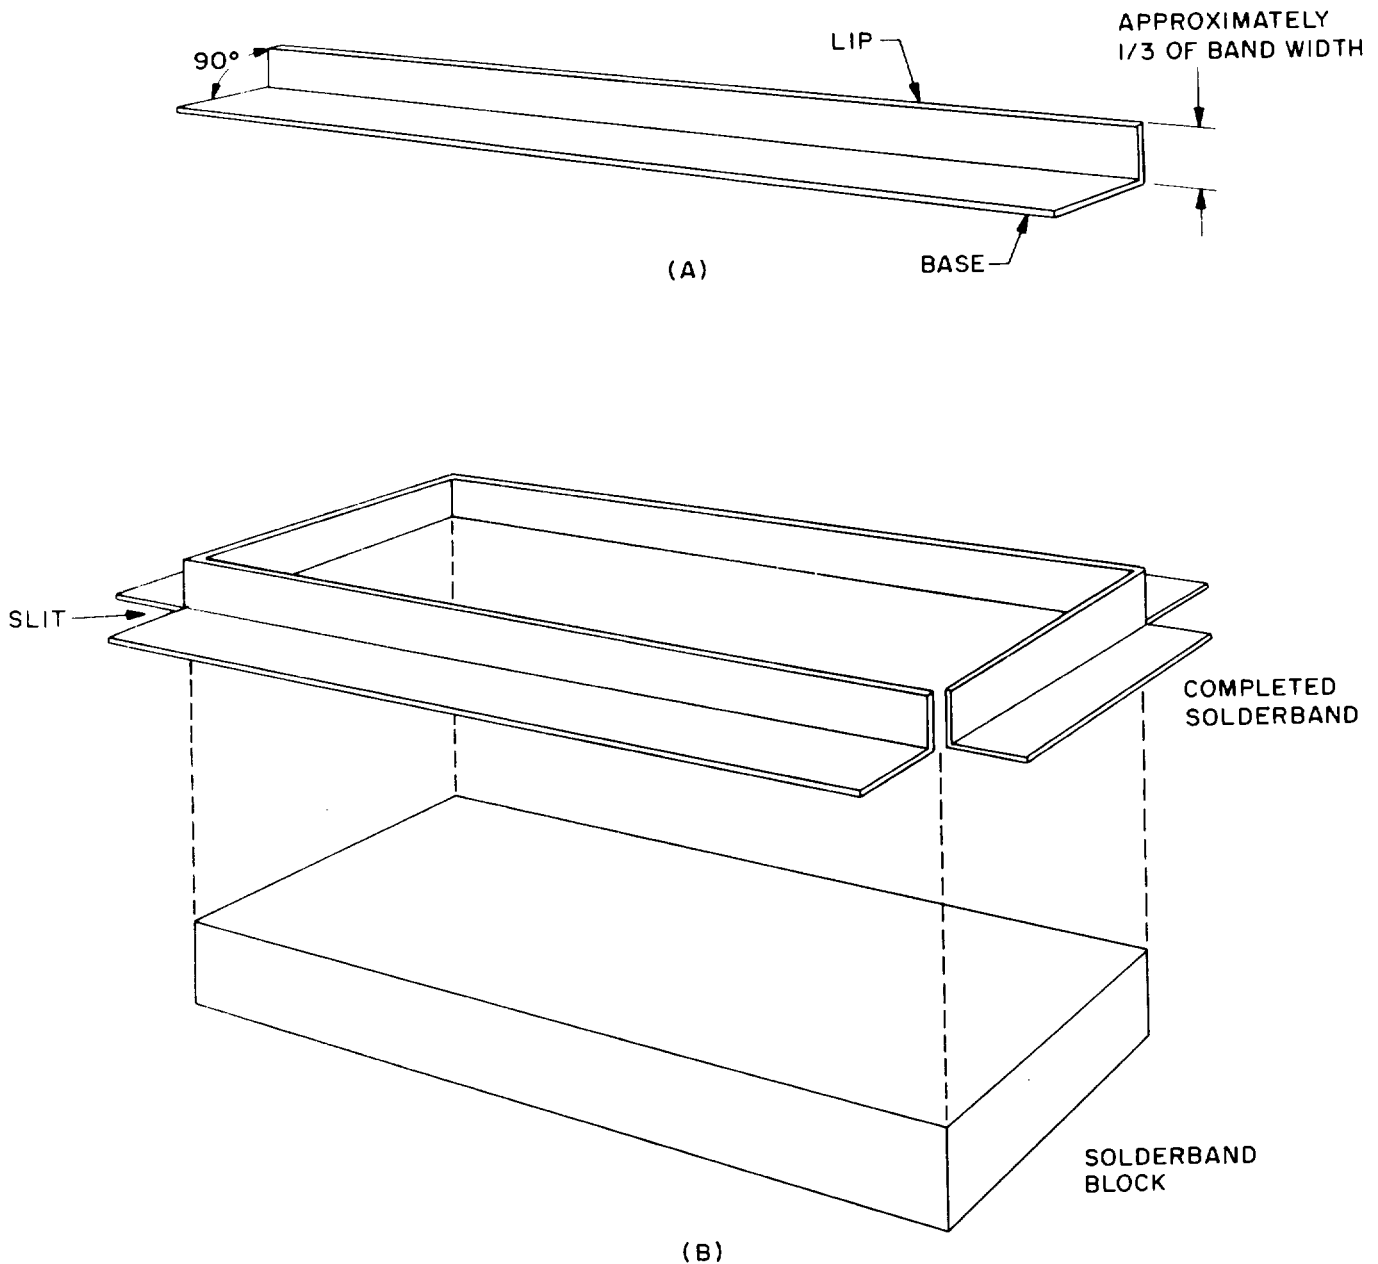

Figure 2-10. Construction of Solderband.
(3) Install evacuation tube (6), identification plate (5), and insulator (4).
(4) Refer to Section III and perform the final test procedures. When all tests are successfully completed, perform the remaining reassembly procedures below.
(5) Construct the solderband (3) as follows: Cut off about 5-1/2 inches of solderband (MV204-4). Fold band along longitudinal axis as shown in 'A' of figure 2-10. Now shape the band by wrapping it around solderband block (table 1-3). (At the corners of the block, the base of the band must be slit so that the band can be bent.) When the solderband is completed, trim off excess band. The completed solderband is shown in 'B' of figure 2-10.
(6) Solder base of solderband (8) to case (1).
(7) Install case (1), Wrap adhesive tape (item 7, table 1-4) around case to hold case to chassis.
(8) Cut off approximately 11 inches of tearband (MAT305). Solder the band to case (over adhesive tape) to form the solderband (2).